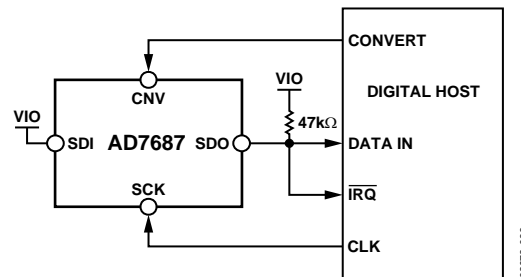
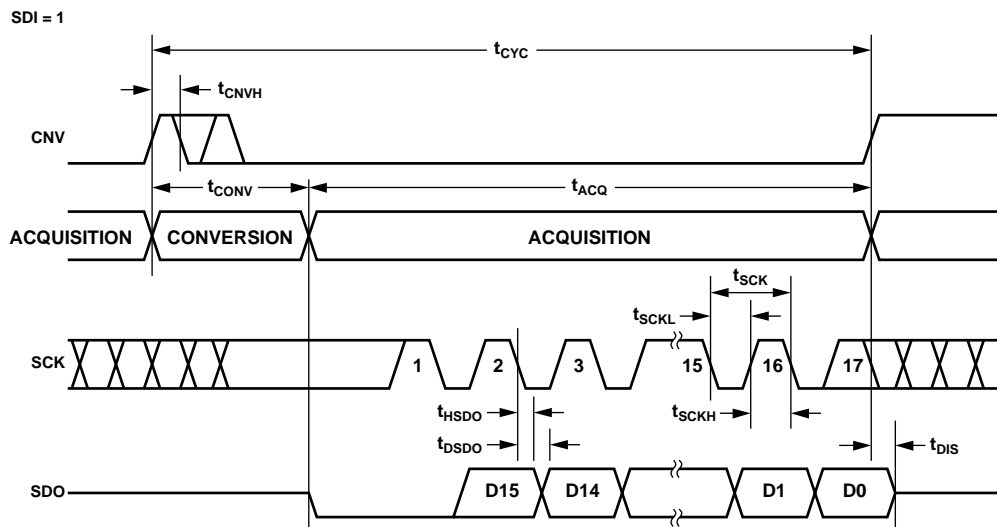
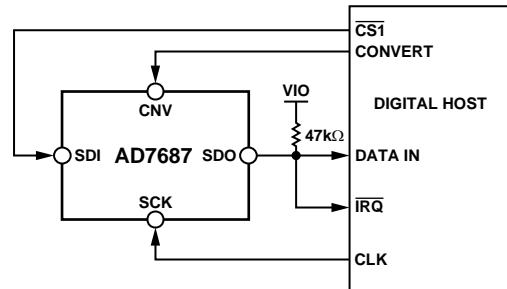
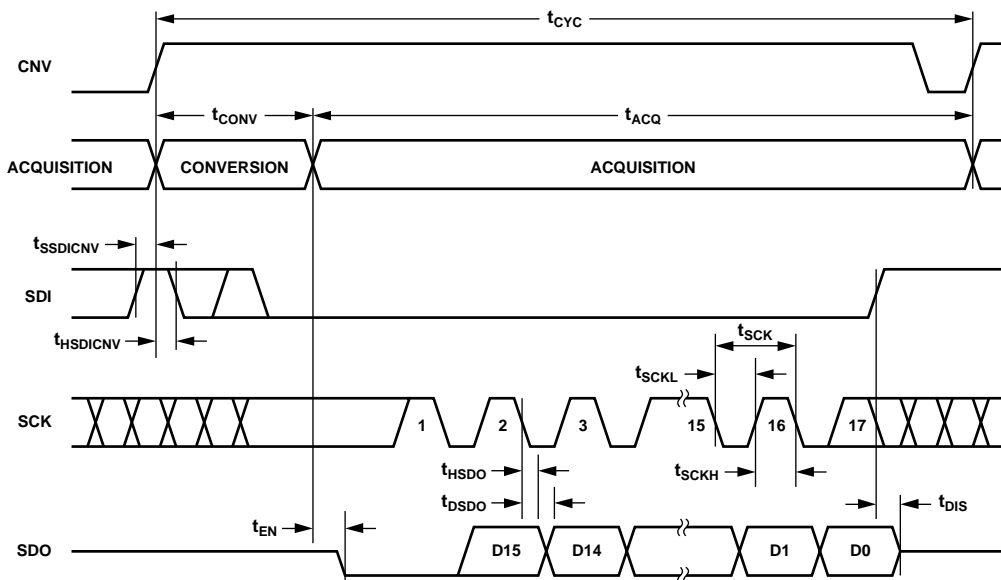

Figure 36. CS Mode, 3-Wire with BUSY Indicator Connection Diagram (SDI High)
Figure 37. CS Mode, 3-Wire with BUSY Indicator Serial Interface Timing (SDI High)
Figure 40. CS Mode, 4-Wire with BUSY Indicator Connection Diagram
Figure 41. CS Mode, 4-Wire with BUSY Indicator Serial Interface Timing
- In the \overline{CS} mode if \overline{CNV} or SDI is low when the ADC conversion ends (see Figure 37 and Figure 41).
Figure 36 shows the connection diagram and Figure 37 gives the corresponding timing.
Figure 40 shows the connection diagram and Figure 41 gives the corresponding timing.